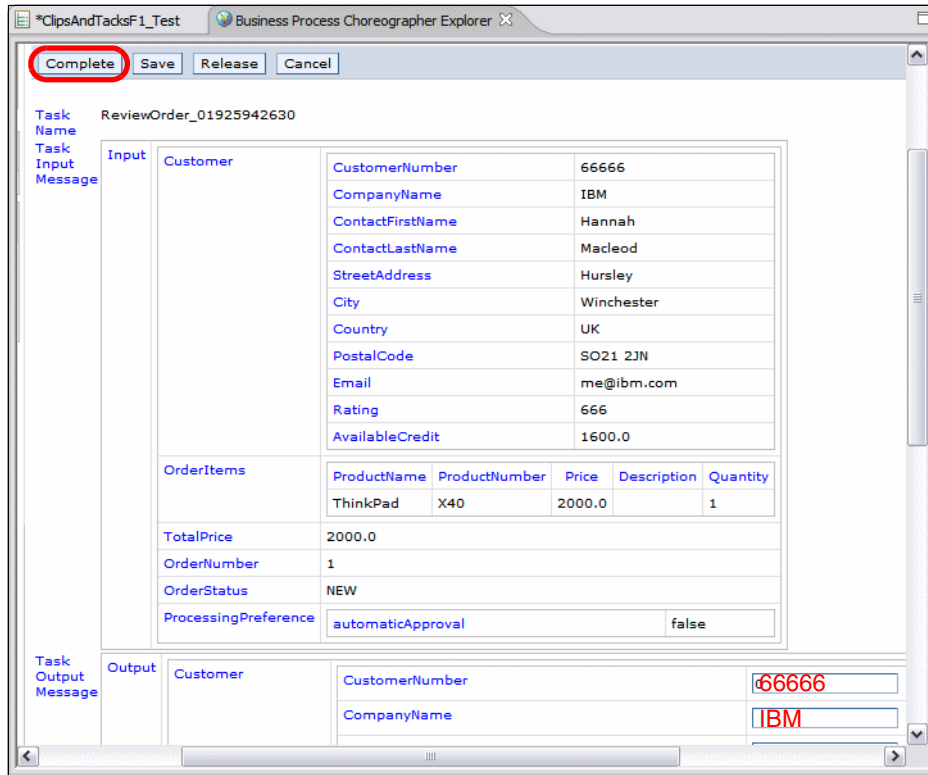

Figure 10-36 BPC Explorer: Work on
- ▶ The task opens with the input message filled in, and an empty output message (Figure 10-36):